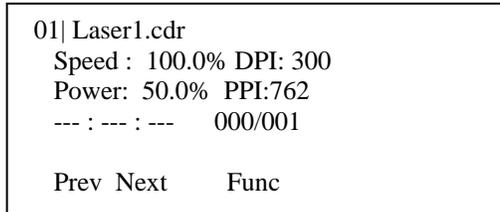

Fig. 5-13 Change job printing sequence
Step 1. Go to the Main Working Page as fig. 5-13 shows